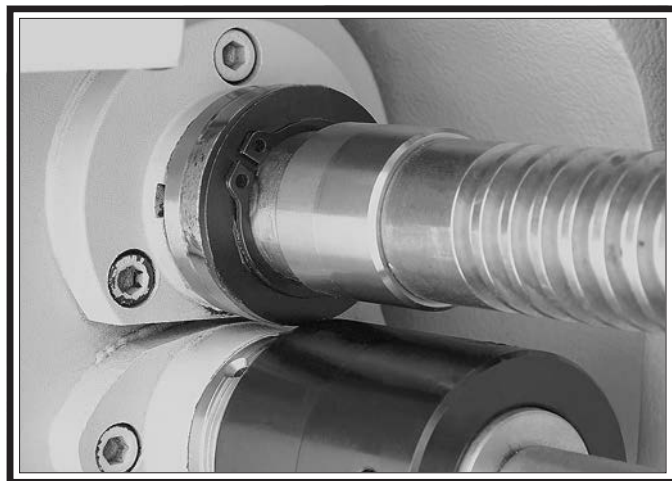

Figure 136. Retaining ring positioned with ears in front of pin access groove.
10. Return the retaining ring against the shroud washer and position the retaining ring ears over the shear pin head, as shown in **Figure 136**. This will prevent the shear pin from falling out if the shroud washer should rotate during operation.